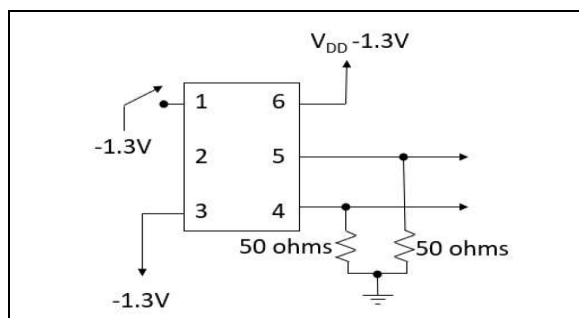
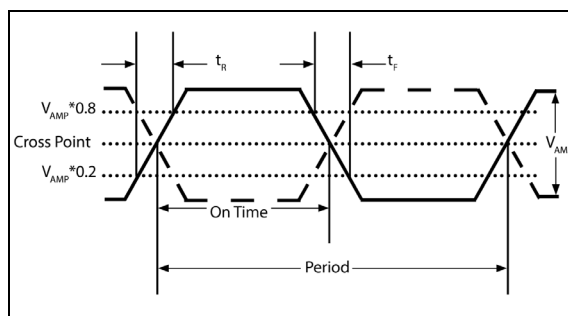
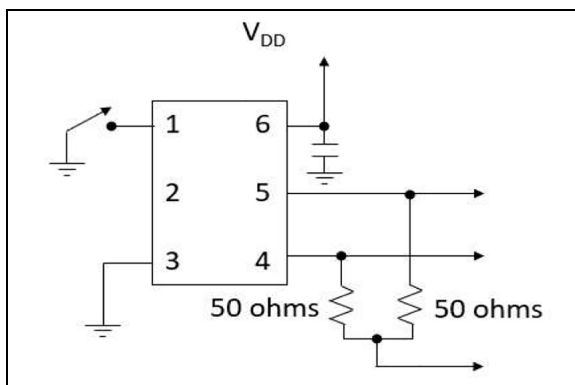

FIGURE 1-1: Test Circuit.
FIGURE 1-2: Output Rise/Fall Time.
FIGURE 1-3: LVDS Test Circuit.
- 3:** Figure 1-1 defines the test circuit and Figure 1-2 defines these parameters.
- Note 3:** Figure 1-1 defines the test circuit and Figure 1-2 defines these parameters.
- Note 3:** Figure 1-3 defines the test circuit and Figure 1-2 defines these parameters.